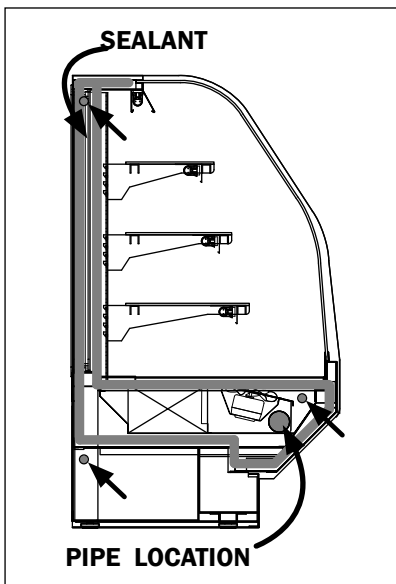

Fig. 2 Sealant, piping, and bolt locations
4. Push the cases tightly together, then lightly bolt them together through the holes provided (Fig.2). Tighten all the joining bolts until all margins are equal. Be careful not to over tighten.
5. Install PVC fitting between cases with case to case piping. The stub-up location can be found under the tank on the customer left (Fig. 2). It is very important for line ups designed with holes in the pipe chase and equipped with PVC fittings to seal between the joints and protect piping.